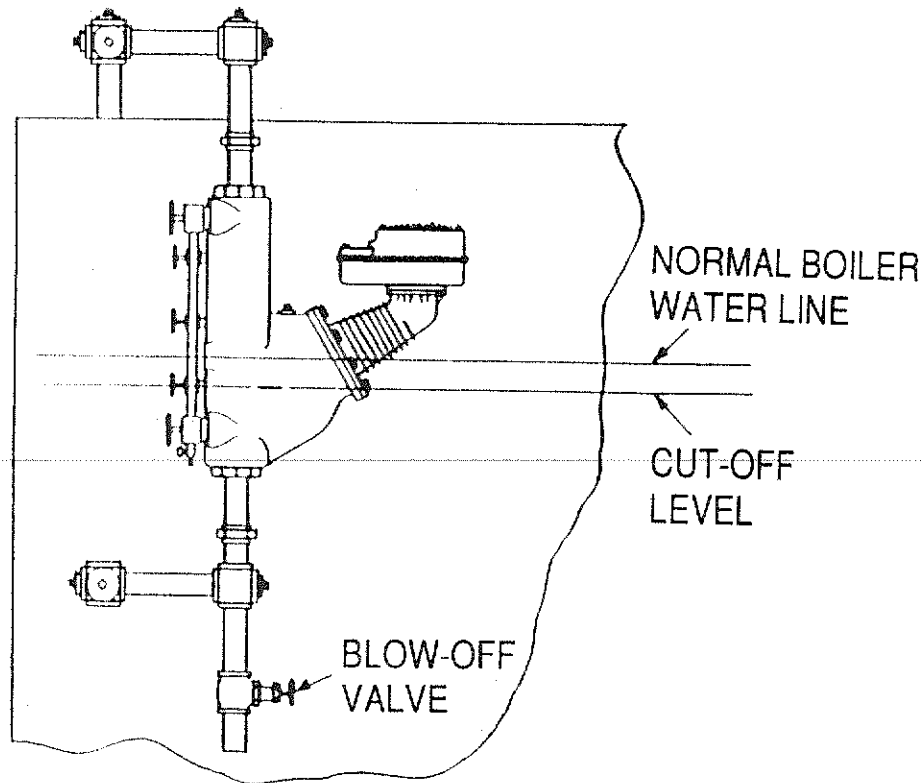

Figure 10
- D. Care must be taken to insure that the steam and water equalizer lines to the water column and controller are kept clean and free from fouling. These should be "rodded" out at least on an annual basis and be blown down with a frequency as dictated by water quality (see Figure 10).